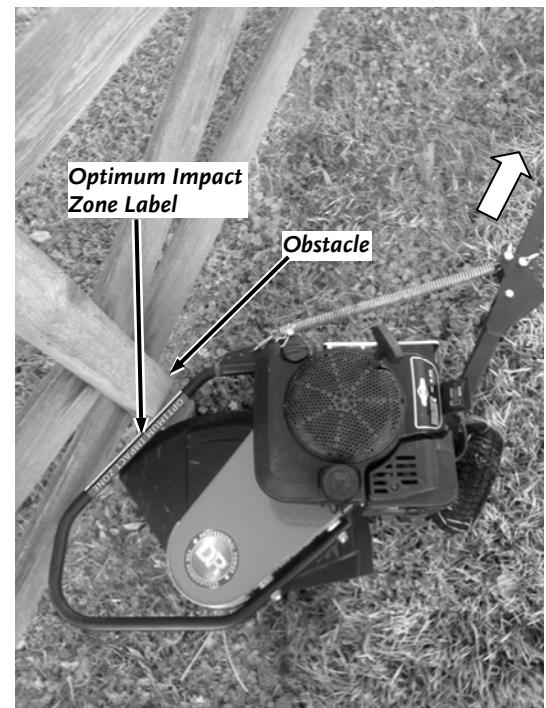

Figure 27
- Approach obstacles (Buildings, fence posts, Trees, Large Rocks etc) so the impact zone will be within the area of the Optimum Impact Zone Label (**Figure 27**). This will ensure the best spring action and trimming coverage around the obstacle.